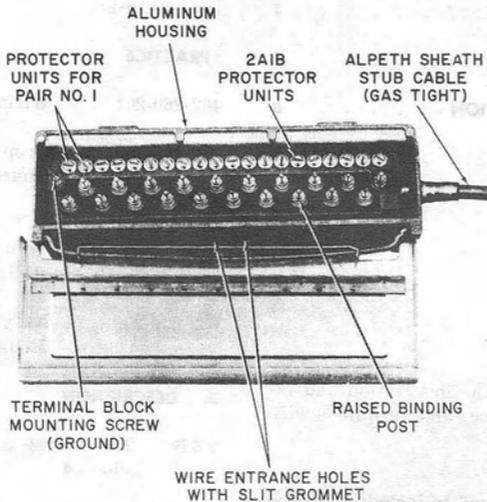

Fig. 1—NCA-10A1 Cable Terminal
2.02 The N-type cable terminals are shown in Fig. 1 through 7. Table A lists the features of these cable terminals.